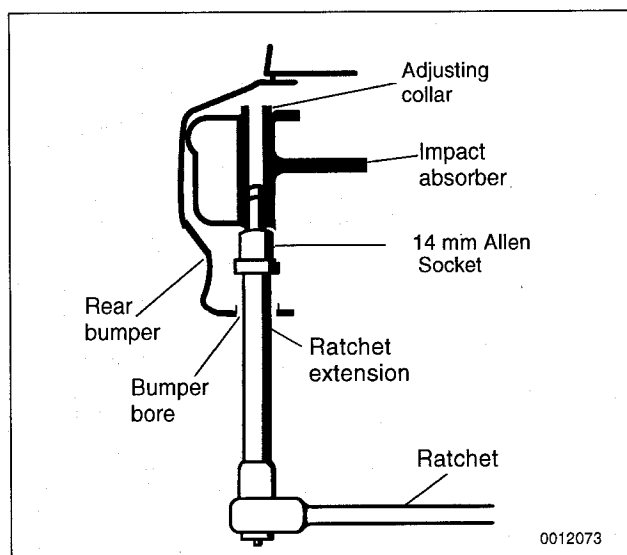

Fig. 14. Adjust bumper height at threaded adjusting collar in bumper impact absorber.
4. Using a 12-inch extension and a 14mm Allen socket, turn adjusting collar clockwise or counterclockwise as needed to change height of adjusting collar. See Fig. 14.